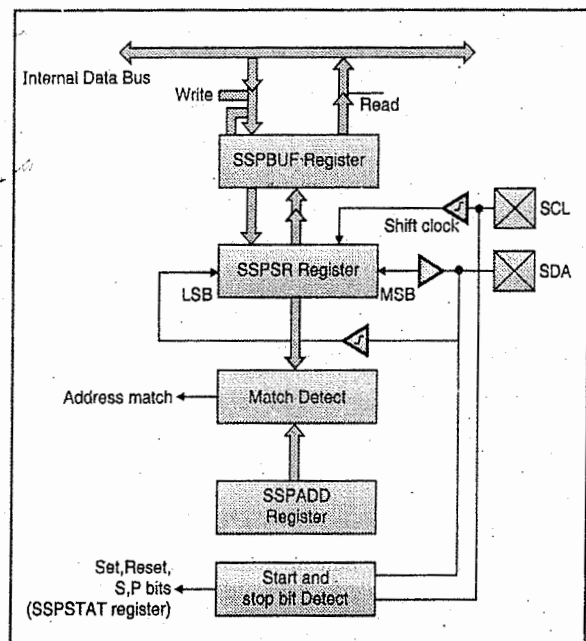
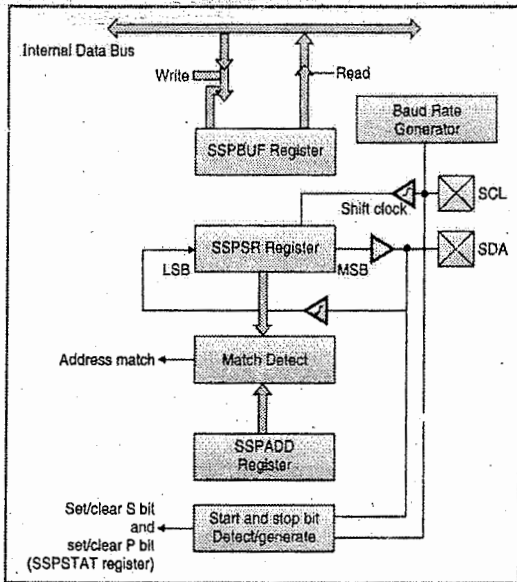

Fig. 12.10.1 : MSSP structure in I2C slave mode
Fig. 12.10.2 : MSSP structure in I2C master mode
- I2C mode supports both 7 and 10 bit addressing. Fig. 12.10.1 shows the I2C slave mode and Fig. 12.10.2 shows the I2C Master mode block diagram.